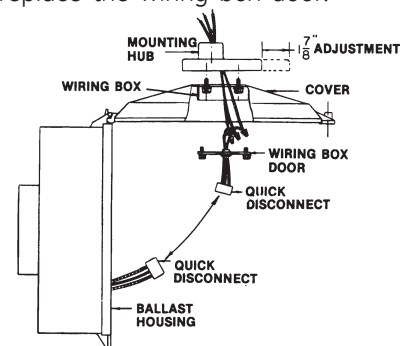

Figure 2
Flexible Cover (See Figures 2 and 3)—Remove wiring box door. Loosen four (4) bolts holding mounting hub to cover. Position adapter plate correctly to balance luminaire. Use widest bolt spacing possible to secure plate cover. Wiring should be accomplished in accordance with accepted practice. Factory attached ground lead is provided. After wiring, replace the wiring box door.